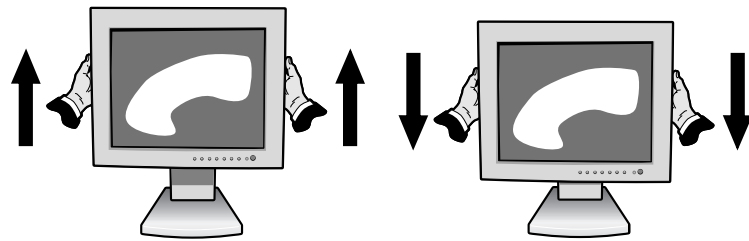

Figure RL.1
To raise or lower screen, place hands on each side of the monitor and lift or lower to the desired height (**Figure RL.1**).
To raise the screen, place hands on each side of the monitor and lift up to the highest position (**Figure RL.1**).
2. Place hands on each side of the monitor and lift up to the highest position (**Figure RL.1**).